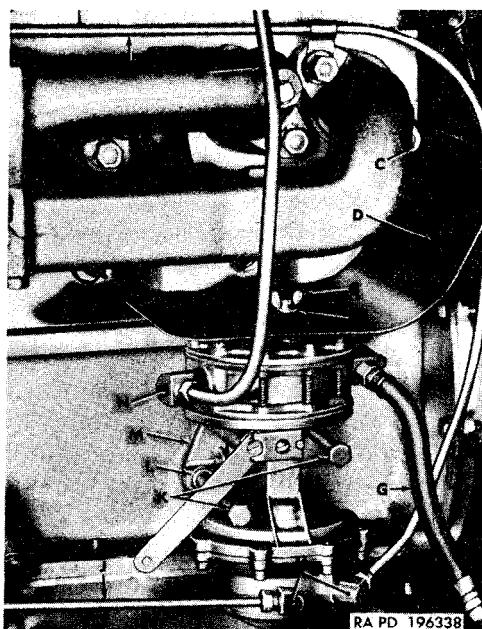

Figure 105. Fuel pump and lines.
Note. The key letters noted in parentheses are in figure 105.
b. *Replace Fuel Pump to Carburetor Line.* Unscrew the fitting nuts from the elbow in the fuel pump (fig. 105) and the carburetor (fig. 101) and remove the line. Install a new line, screwing the fitting nuts firmly into place.
c. *Replace Flexible Fuel Lines.* A flexible fuel line (G, fig. 105) is used to connect the shutoff cock (L, fig. 109) to the fuel pump. On vehicles with the fuel filter (fig. 106) in the engine compartment, flexible lines are also used to connect the fuel filter to the intermediate and front lines. To replace any of the flexible lines, disconnect the line at both ends and remove. Install a new flexible line, screwing both fitting nuts into place. The three lines are interchangeable.